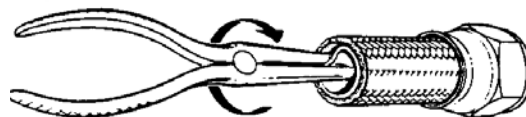

Figure 8A: Removing tube from sleeve
- Step 4.** Hold socket firmly in vise. Do not damage socket. Using needle nose pliers, remove the tube from the sleeve and hose reinforcement. (See **Figure 8A**). The tube may be removed by folding longitudinally and pulling it out of the socket.